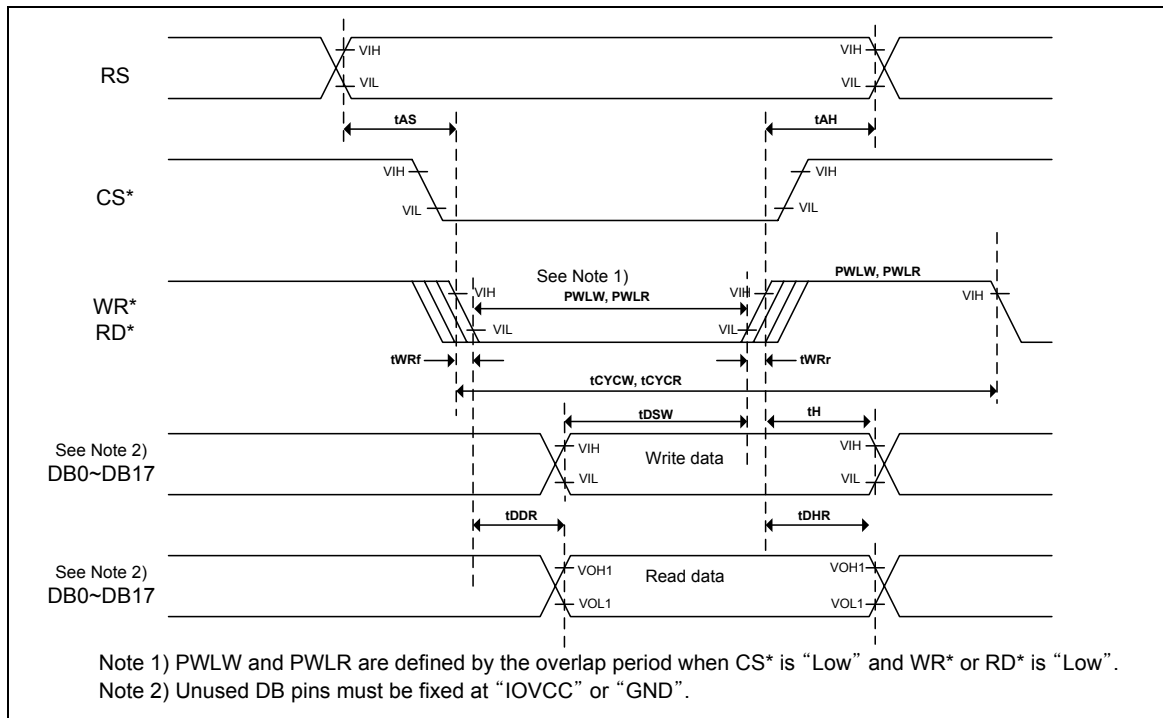

Figure 83 80-system bus interface operation
Table 101 See Figure 83 (Condition:  $IOV_{CC} = 1.65$  to  $3.30V$ ,  $V_{CC} = V_{CI} = 2.50$  to  $3.30V$ )
**Table 102** See Figure 83 (Condition: IOVcc = 1.65 to 3.30V, Vcc = Vci = 2.50 to 3.30V)